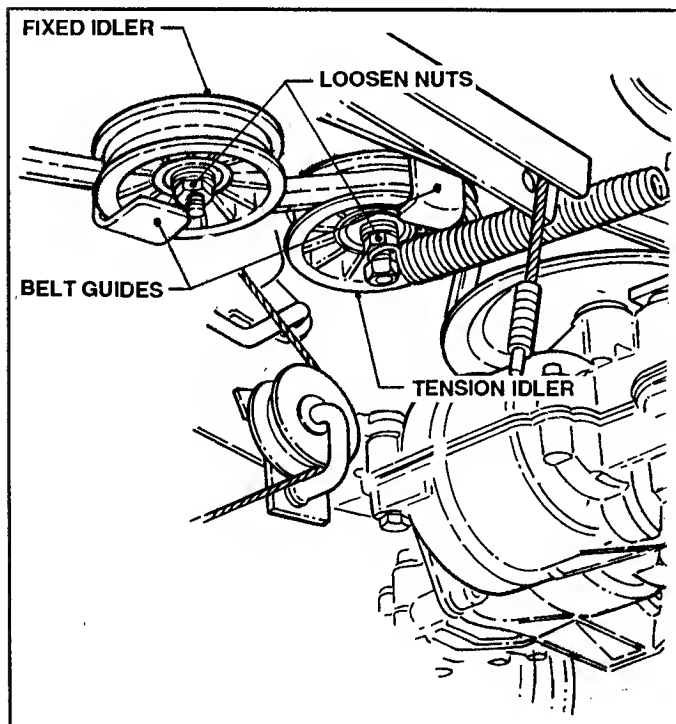

FIGURE 55
9. Loosen retaining nuts on fixed idler and tension idler pulleys and slide belt guides out enough to allow belt removal. See Figure 55.